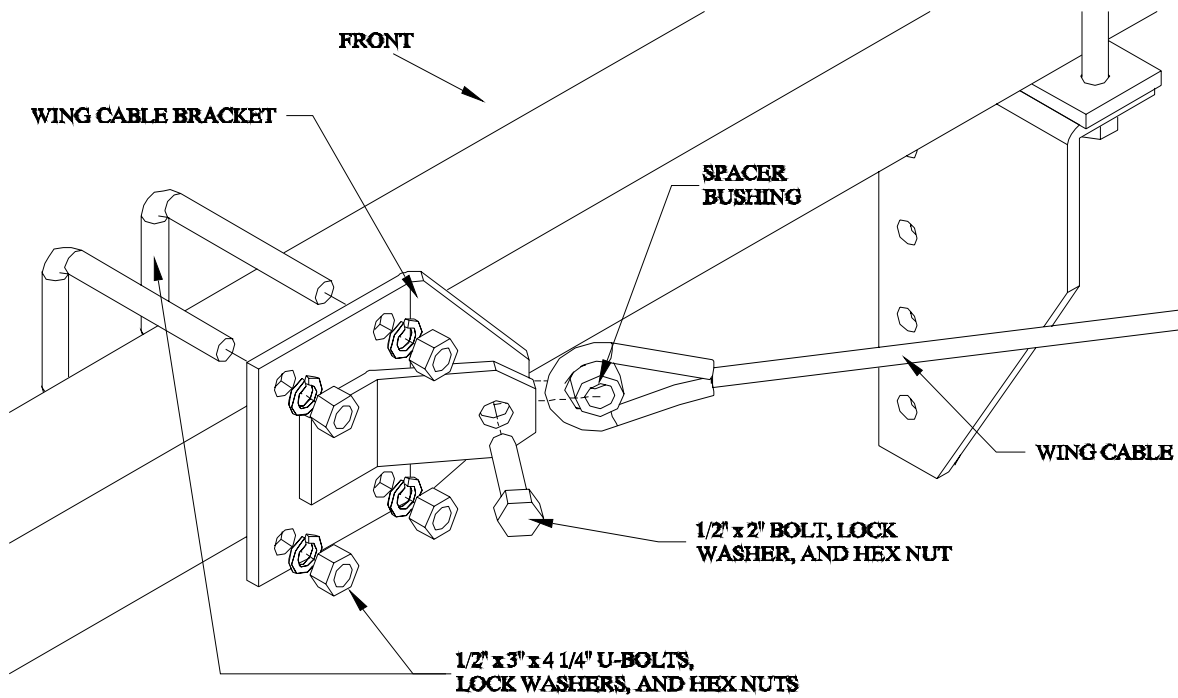

Figure 11
2. Bolt the wing cable brackets to the free end of the wing cables. Refer to Figure 11 on the next page. Place one of the 17/32" ID x 15/16" OD x 9/16" spacer bushings into the free ends of the wing cables, then bolt the wing cables to the wing cable brackets using 1/2" x 2" bolts, lock washers, and hex nuts.